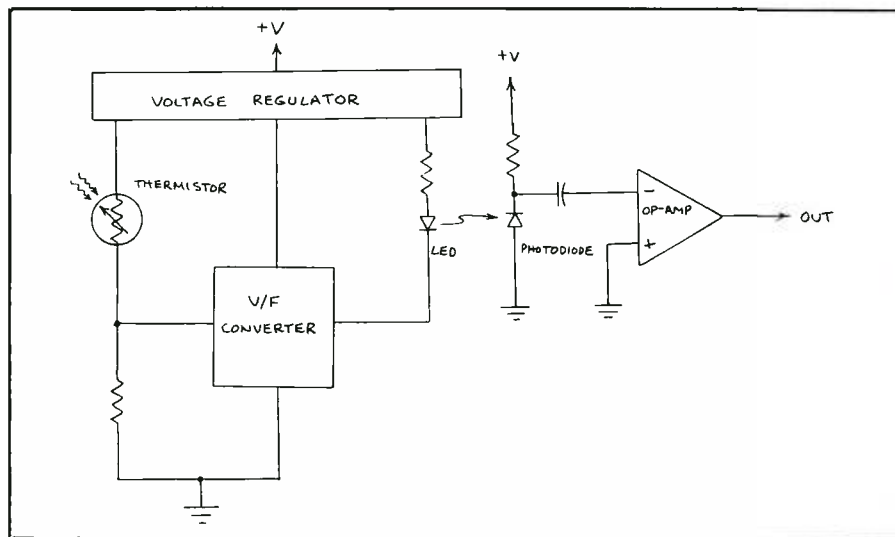

Fig. 1. Block diagram of an infrared temperature-sensing transmitter.
Several circuit arrangements can be used to transmit temperature by means of an infrared (IR) beam. Figure 1 is a block diagram of the method I selected. Notice that the temperature-sensing element is a thermistor, a type of temperature-dependent resistor. Temperature-sensing integrated circuits like the LM334 and LM335 can also be used. They provide highly linear output with respect to temperature. Though thermistors are nonlinear, they provide a faster response time.
In Fig. 1, the thermistor is in series with a resistor to form a voltage divider. As the thermistor's resistance changes with temperature, the voltage at the junction of the thermistor and resistor changes. The resistance of thermistors is typically inversely proportional to temperature (resistance decreases as temperature rises). Therefore, the output from the thermistor-resistor voltage divider in Fig. 1 increases as the temperature of the thermistor increases.
gram in Fig. 1. I've built and tested several versions of this circuit. The final working version of the circuit is housed in a 2.3" x 1.2" x 0.6" plastic enclosure. The entire circuit, including battery, weighs less than an ounce.